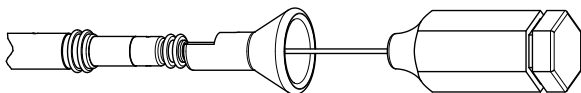

Figure 4. Insert the stylet
3. Insert the chosen stylet through the terminal pin or the stylet guide if using one (Figure 4 Insert the stylet on page 15).